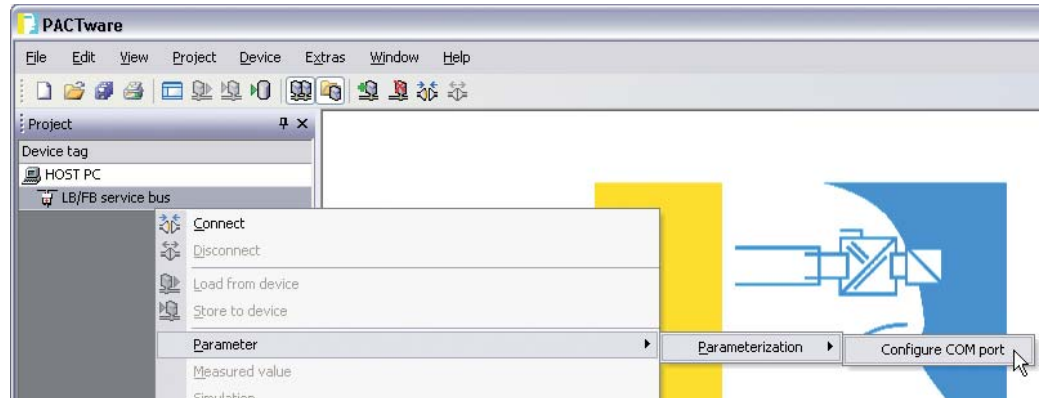

Figure 5.2: Setting the COM port
6. In the context menu select **Parameter > Parameterization > Configure COM port** (view Figure 5.2 on page 37).